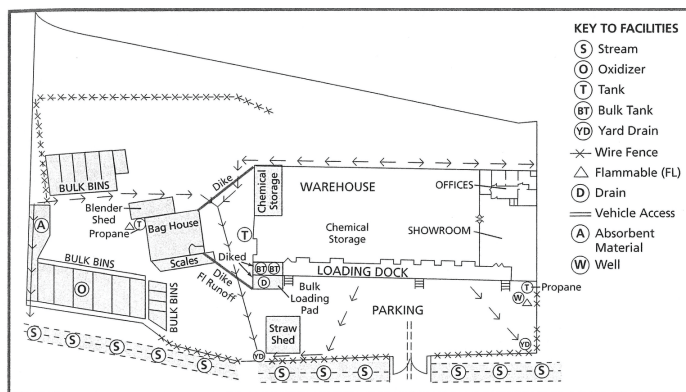

Figure 1. Example of a facility map.
- Prepare a map of your facility to include with your emergency response plan (Table 3). Show a layout of all chemical storage buildings and bulk storage tanks, access roads, main shutoffs for electricity, water, and gas, perimeter fencing that could hinder access to the pesticide storage facility, the location of fire alarms, firefighting equipment, protective clothing, and drainage easements on the site. Provide emergency response agencies an updated copy of this map whenever changes are made at the facility (Figure 1).